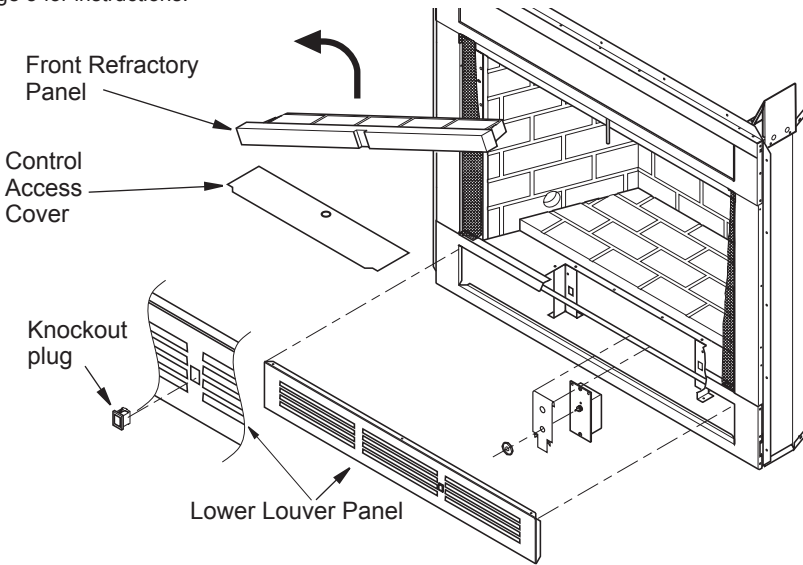

Figure 1: Accessing Blower Compartment (Controls Not Shown for Clarity) B-vent, Wood and Vent-Free Models
The BK blower can be installed in wood burning, B-vent and vent-free model fireplaces. Both the BK and BKT blowers can be installed in direct-vent model fireplaces. Blowers are installed by accessing the blower compartment through the lower louver panel or, on some models, through the control access cover under the front refractory panel (see Figure 1). The lower front louver panel can be removed easily, see *removing louver panel*, page 3 for instructions.
For models other than direct-vent, remove panel or stamped face louver by snapping out the front with a flat blade screwdriver (see Figure 1, page 2). Use caution not to scratch any surfaces. These panels can also be removed by inserting fingertips between slots and gently pulling out. **DO NOT FORCE**. The panels are actually held in place by means of a retention dimple embossed on the edge of the panel. To reinstall, place louver into cavity and push gently.
3. Remove knockout plug from louver panel by depressing top and bottom retaining clips (see figure 1, page 2).
3. Remove knockout plug from louver panel by depressing top and bottom retaining clips (see Figure 1, page 2).